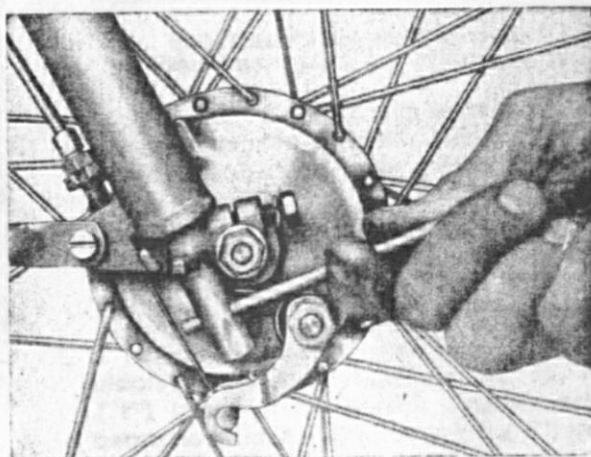

Fig. 8: Loosening the spring supporting bolt in the telescope front fork
2. Loosen nuts of the spring supporting bolts (Fig. 8).